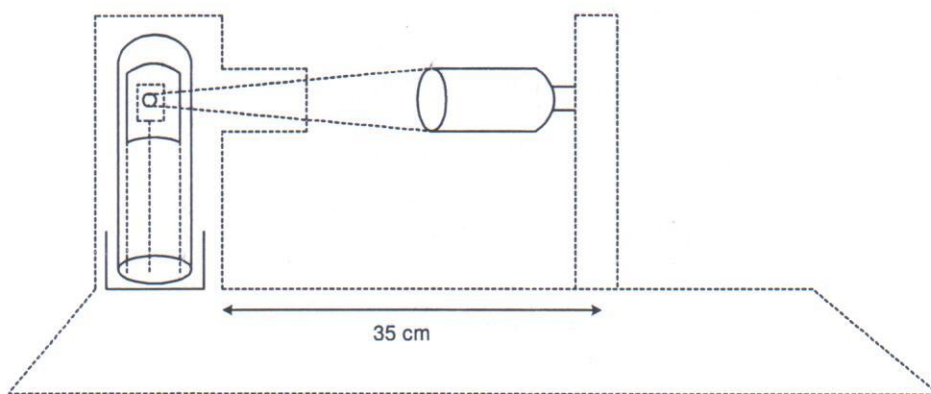

Fig. 1
1. Open the carton and takeout the apparatus. Put it on the table, open the top cover (5) and take out all the packing material around the phototube.
2. Install the phototube (7) on its base (8) such that the cathode plate of the tube faces the lens (if already not installed or loose). See that the phototube is sitting firmly in its base and is not inclined or loose.
3. Adjust the light source (1) such that light is parallel to the guide (2) and maximum lights falls directly on drawtube (4).
4. Slide the light source (1) to about 350 mm position. Set light switch (12) to medium intensity. The light should shine on the middle area of the phototube cathode plate as shown in figure 1. If required user can make slight adjustment in the position of phototube by moving it gently too and for in its base to get a maximum current display, while other conditions are not changed.
5. Cover the phototube chamber by screwing back its cover (5).
7. Now adjust the light source (i) to about 250 mm position (optional). Set light switch (12) at medium to maximum intensity and take reading as per procedure given.